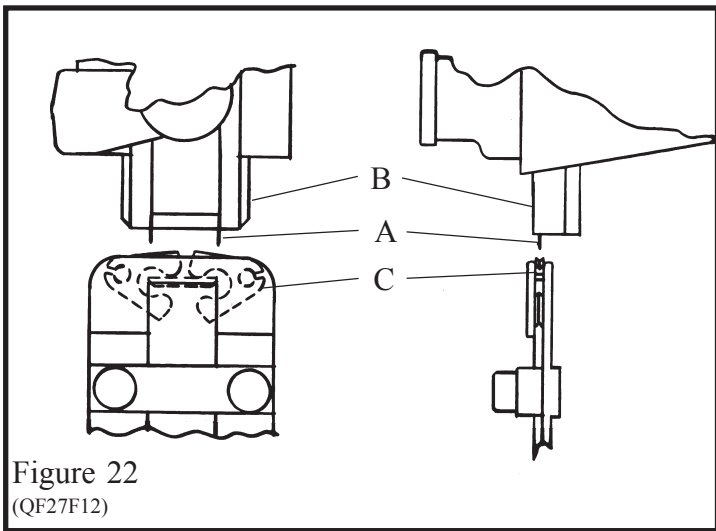

Figure 22
F. Head/Clincher Alignment (Figures 22, 23)
1. With power off, press in and turn the jog knob clockwise until the legs of the stitch (Index A, Fig. 22) appear just below the bender bar (Index B).
3. Move the base until the legs of the stitch line up with the clincher points (Index C, Fig. 22).